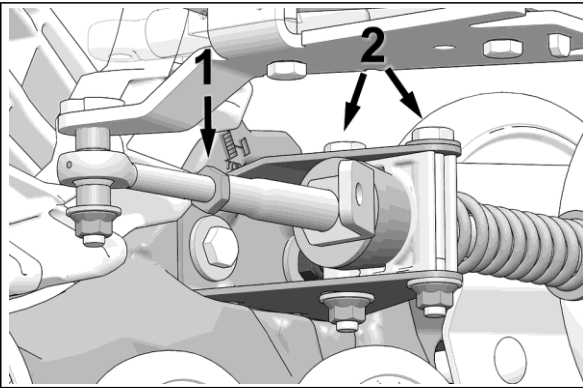

Figure 5
- When angle of attack is correctly set, re-tighten the jam nut (1) to 40 N•m [30 lb•ft] and the pivoting plate's bolts (2) to 50 N•m [37 lb•ft] of torque. Figure 5.